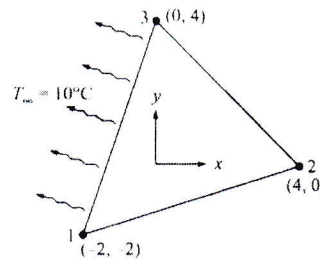

Figure 6
7. Evaluate the stiffness matrix and heat rate vector for the element shown in figure 6. Take $h = 0.2 \text{ W/cm}^2 \text{ } ^\circ\text{C}$ and $T_\infty = 10^\circ\text{C}$ and $k = 2 \text{ W/cm}^0\text{C}$. [15]